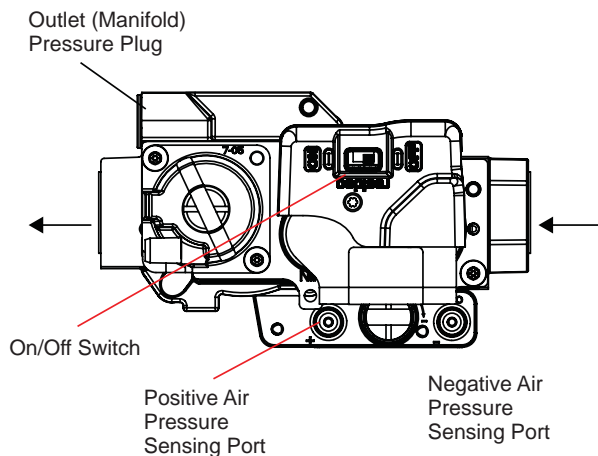

Figure 1. Gas Valve
6. Slide the gas control switch, or turn the gas control knob, to "OFF" (See **Figure 1**).
4. Slide the gas control switch, or turn the gas control knob "OFF" (See **Figure 1**). Do not force.